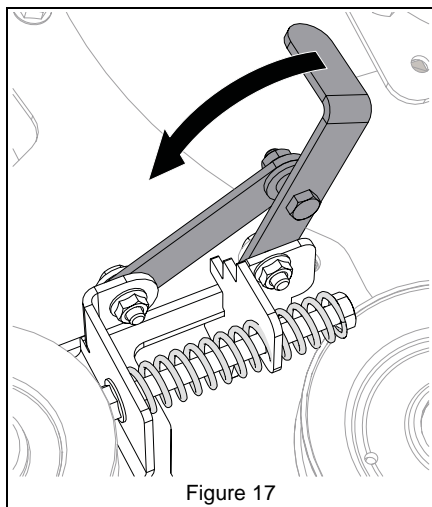

Figure 17
1. Place blower belt tensioner in released position. See Figure 17.